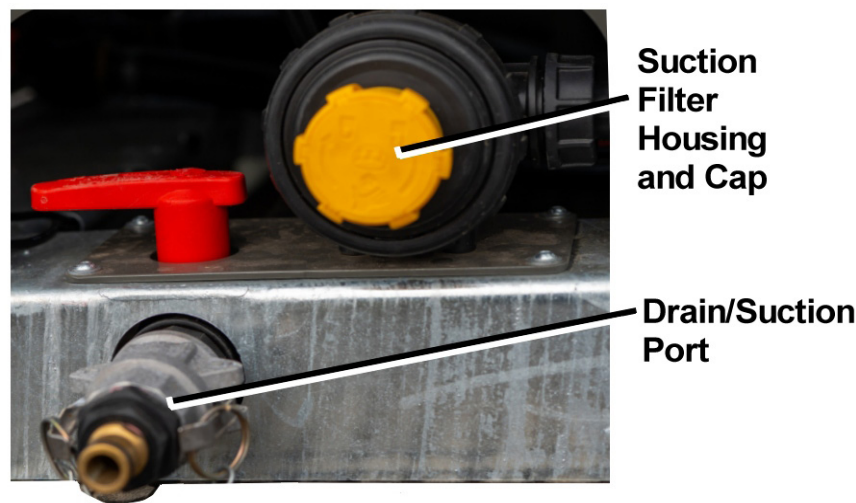

Figure 15 – Suction Filter
2. Unscrew the suction filter cover (refer to Figure 15) and remove the filter screen and gasket. Soak the filter screen in clean water, brushing carefully with a nozzle brush. When re-assembling, ensure the gasket is in position.